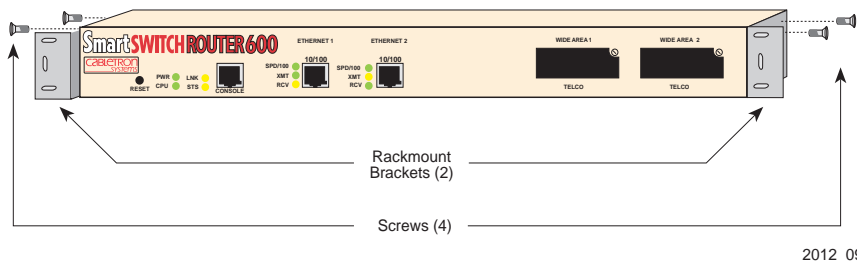

Figure 3-8 Installing the Rackmount Brackets
4. Use two of the four 6-32 x 1/4 inch flathead screws to attach the bracket along the top edge of the SSR-600. See Figure 3-8.